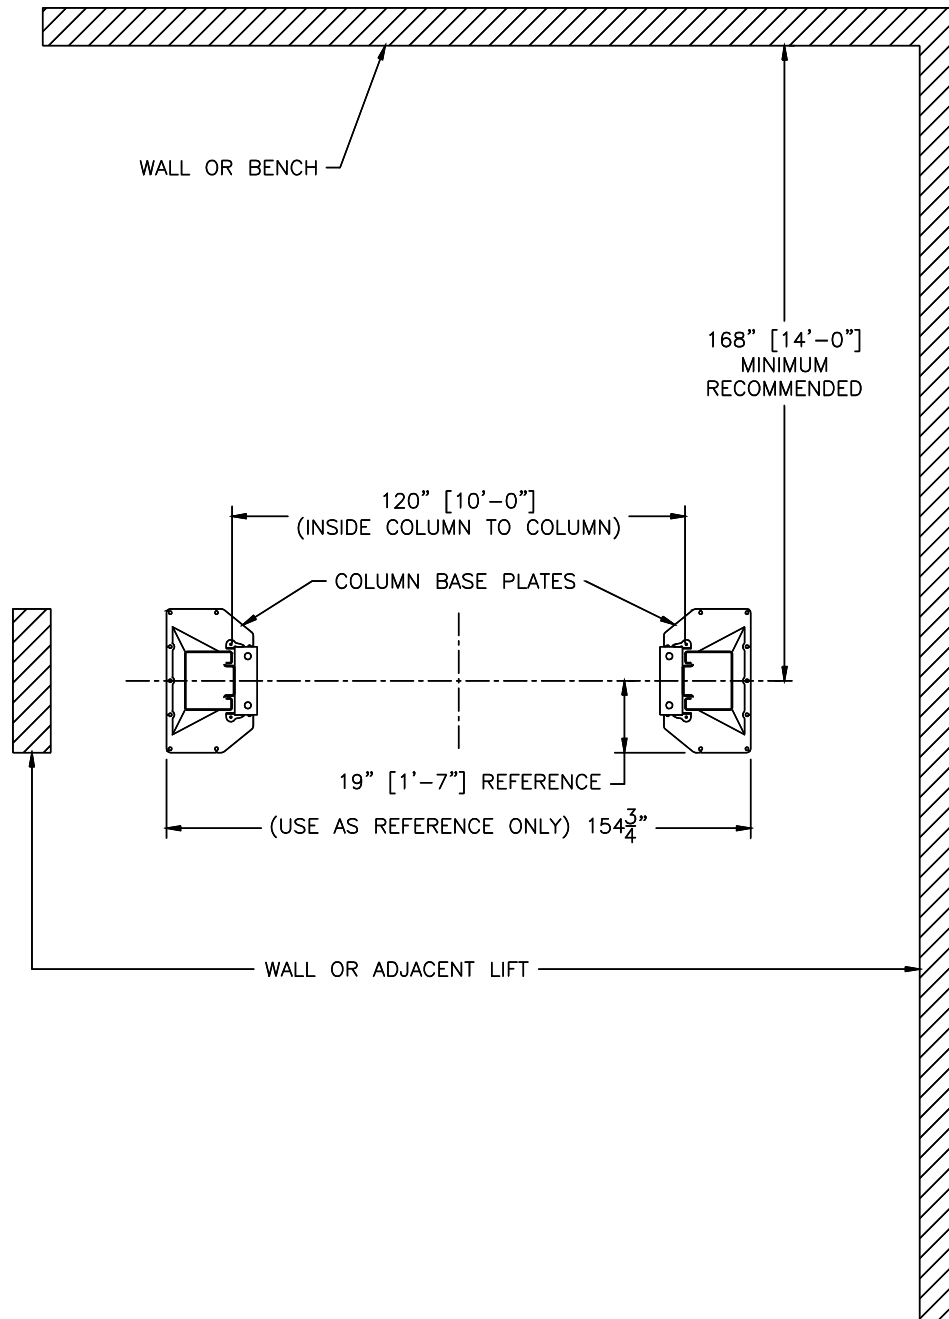

Figure 2
2. Layout the service bay according to the architect's plans or owner's instructions (see Fig 2). Be certain that the proper conditions exist per the section entitled "Before You Install".